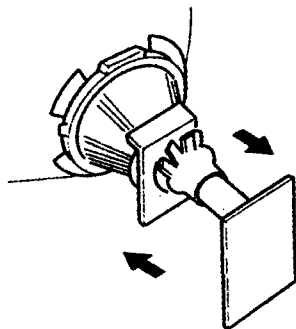

Fig. 1
- 5) Move the deflection yoke forward, and adjust so that the entire screen becomes green. (Fig. 1)